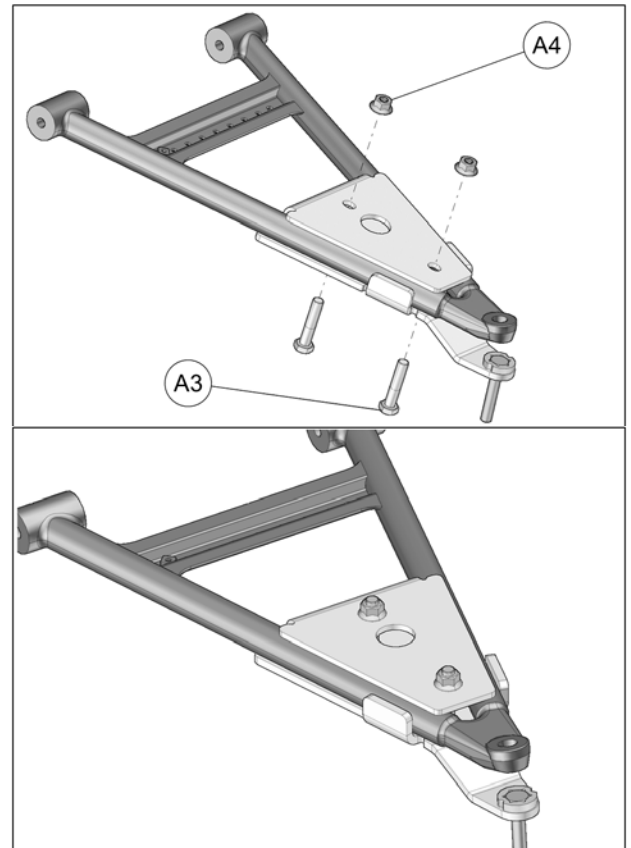

Fig. 18
6. Insert M10x50 mm bolts (A3) through the bottom and secure the two parts together with the nuts (A4) provided. Tighten assembly to 50 N•m [37 lb•ft] of torque. See Fig. 18